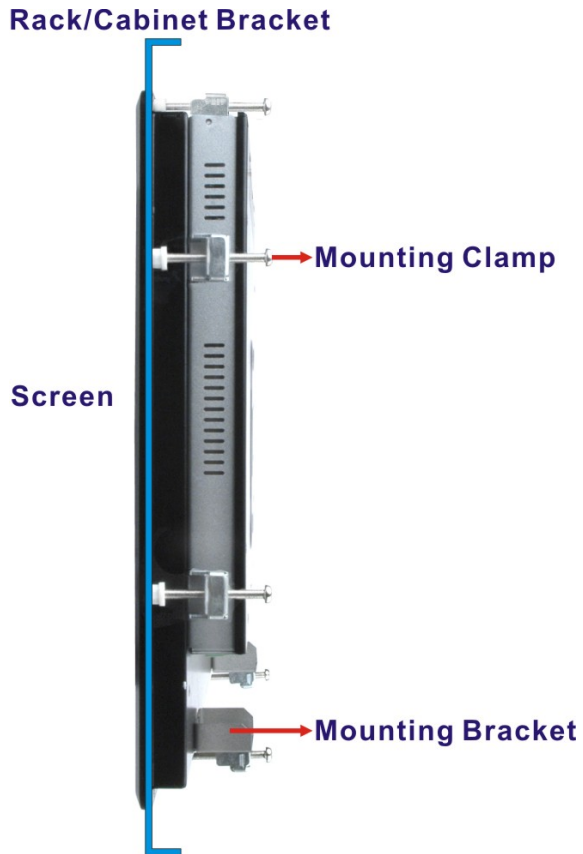

Figure 3-24: Secure the Rack/Cabinet Bracket
Step 3: Insert the mounting clamps into the mounting brackets and pre-formed holes along the edges of the PPC-F12B/15B/17B-BTi, behind the aluminum frame (**Figure 3-24**). The required number of mounting clamps may vary by models.
Step 4: Tighten the screws that pass through the mounting clamps until the plastic caps at the front of all the screws are firmly secured to the bracket (**Figure 3-24**).